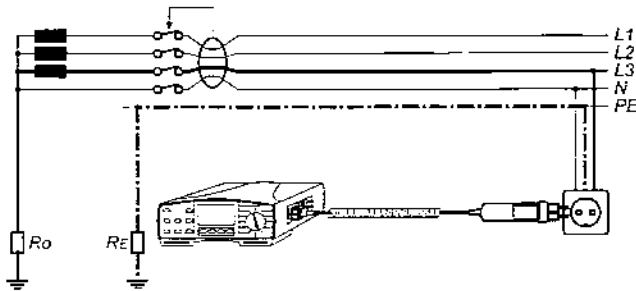
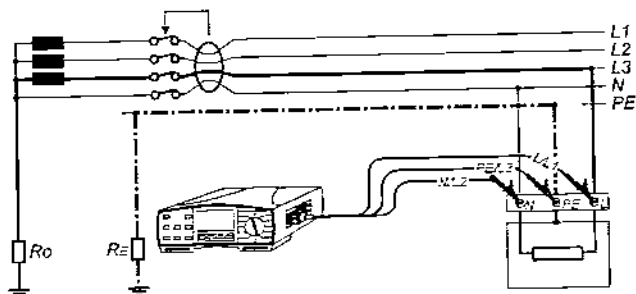

Fig. 18. Connection of Plug commander
Fig. 19. Connection of Universal test cable
- Connect test cable to object to be tested (mains outlet or other test terminals), in accordance with figure 18. (Plug commander) or figure 19. (Universal test cable).
- **Connect test cable** to object to be tested (mains outlet or other test terminals), in accordance with figure 18. (Plug commander) or figure 19. (Universal test cable).